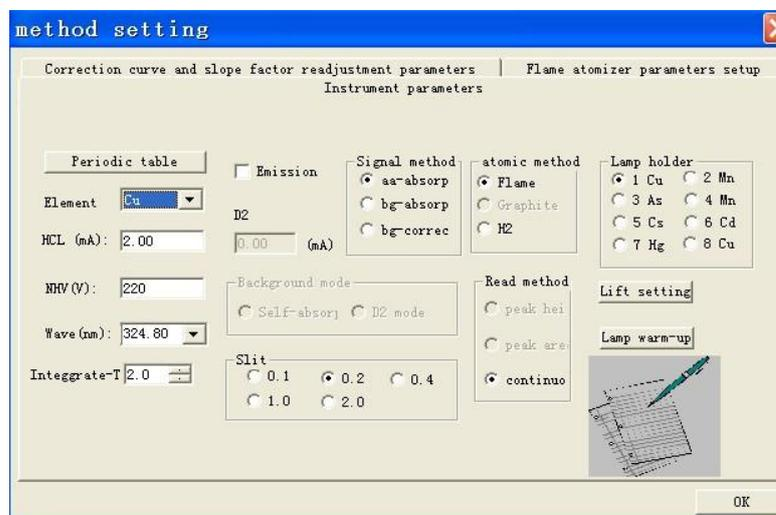

Figure 5-1a
3. Enter a proper value in the "Integration time" field and select a proper reading method in the "Instrument parameters" screen, as shown in Figure 5-1a.